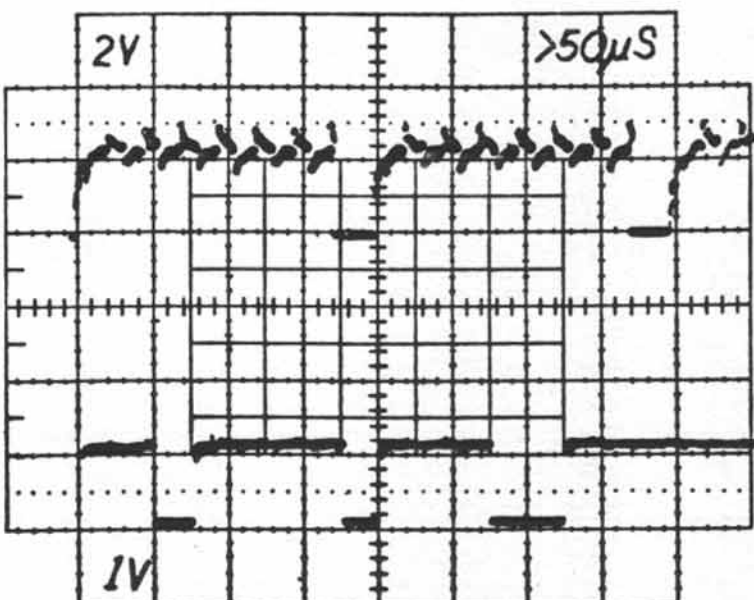

Fig. 3-4
Fig. 3-3 and Fig. 3-4 are I Bus samples. Word 1 (BV) is identical in each sample but Word 2 shows AE mode in Fig. 3-3 and BCK (battery check) mode in Fig. 3-4.
T.B(2)	T.B(3)